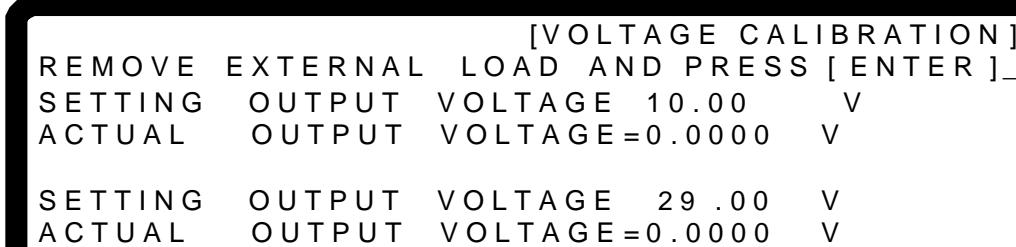

Figure 3-137
3. Press “**ENTER**” to display the current calibration options as shown in Figure 3-137.